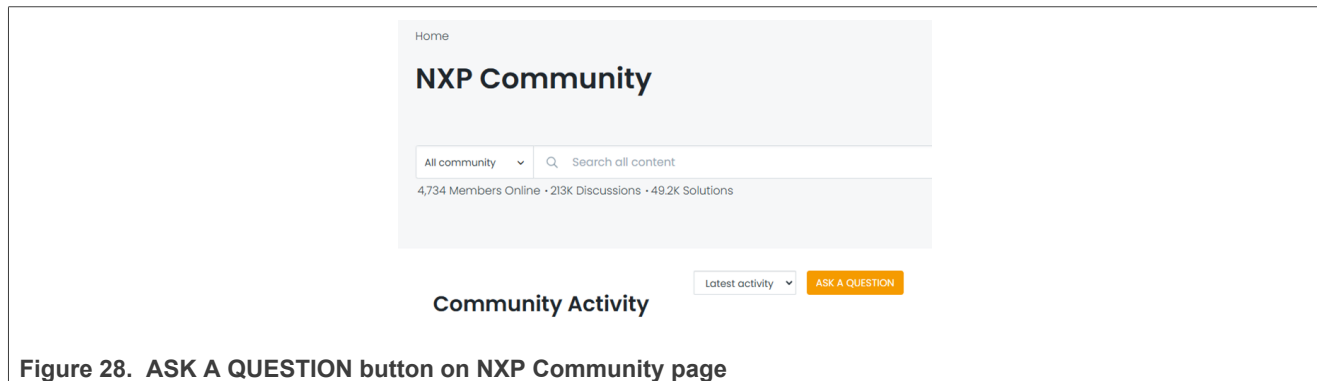

Figure 28. ASK A QUESTION button on NXP Community page
Step 4 – Click **ASK A QUESTION** (Figure 28).